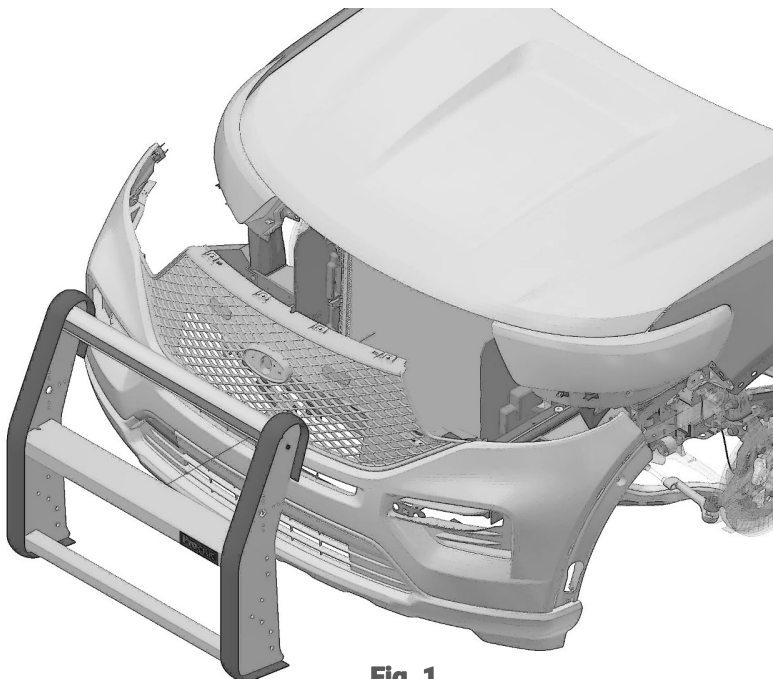

Fig. 1
- A. Disassemble push bumper and outer brackets. (Fig. 1) **NOTE: Push bumper is required for wrap installation. If you haven't installed the push bumper please refer to the instructions for PB47UINT20HD.**